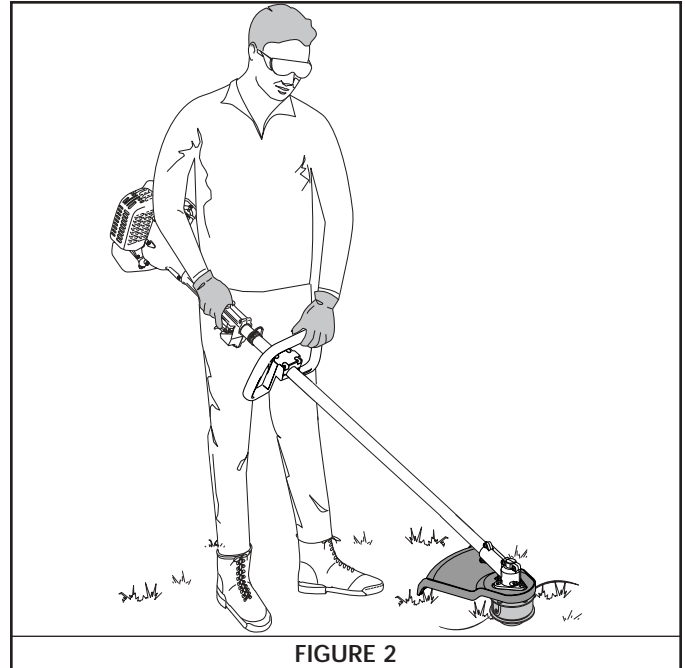

FIGURE 2
5. While holding the unit in the operating position, arrange the D-handle to the location that provides you the best grip. See Figure 2.